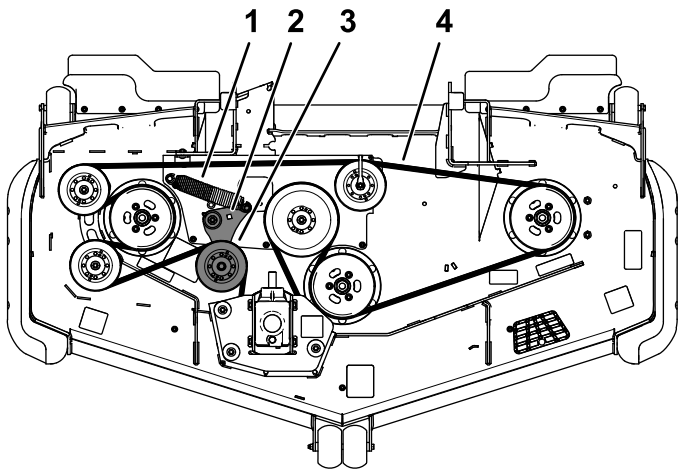
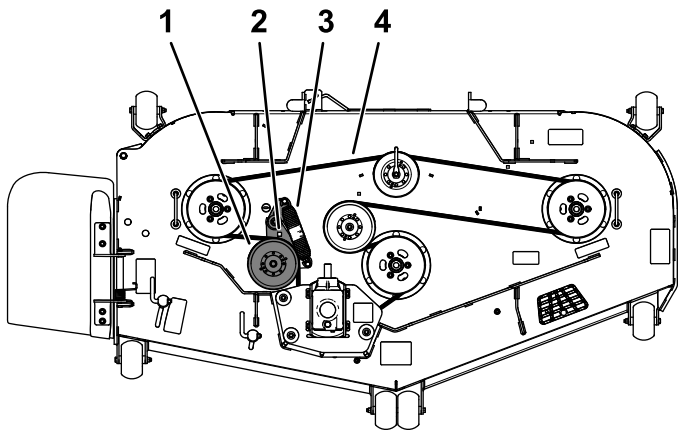

Figure 60
Figure 61
- Use a ratchet in the square hole in the idler arm to remove tension on the idler spring (Figure 60 or Figure 61).
- Install the new belt around the mower pulleys (Figure 60 or Figure 61).
8. Ensure that the spring ends are seated in the anchor grooves, and using the ratchet in the square hole, install the belt around the idler pulley (Figure 60 or Figure 61).